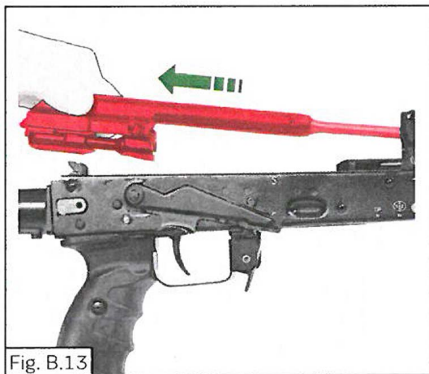

Fig. B.13
- detach the bolt carrier group. For this purpose retract the bolt carrier backwards to the stop and take it upward from the receiver guides as shown in Fig. B.13;